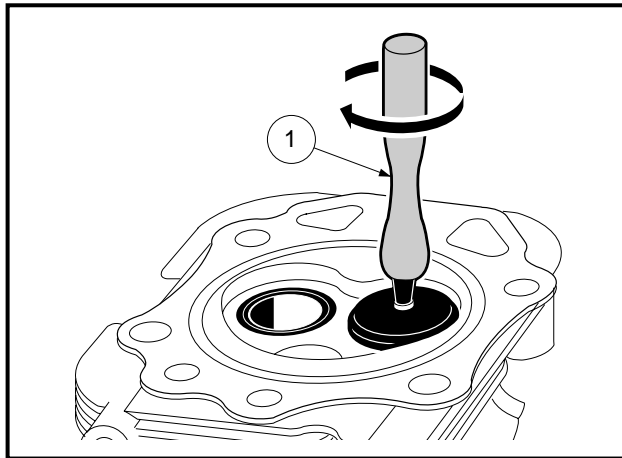

Figure 13-27 Lap Valve To Valve Seat
- 4.2. Use the vacuum cup lapping tool (1) to grip the top of the valve. Rotate the valve in a circular motion to lap the valve to the seat (**Figure 13-27, Page 13-16**).